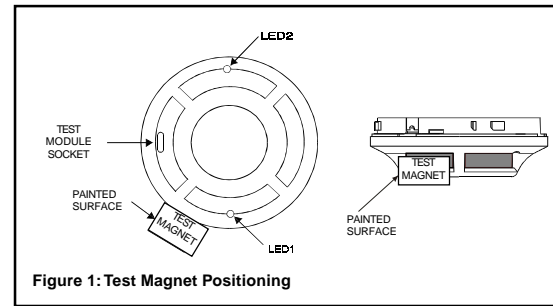

Figure 1: Test Magnet Positioning
1. Test the sensor by positioning the test magnet against the sensor body approximately 2cm from LED1 in the direction of the metering socket, as shown in Figure 1.